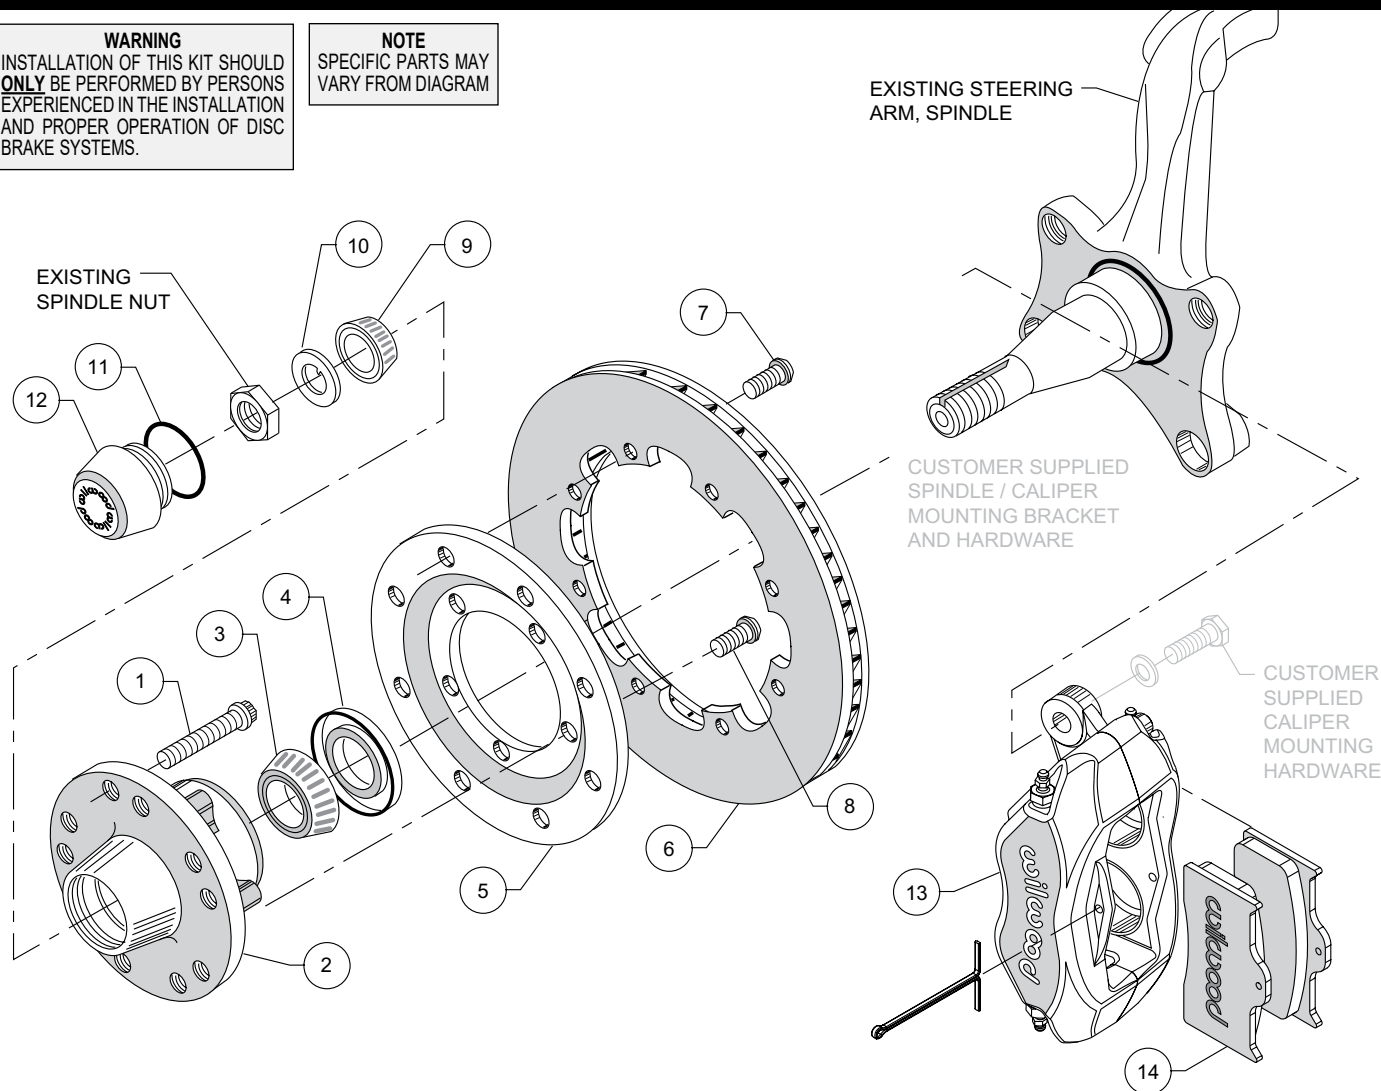

Figure 1. Typical Installation Configuration
NOTE: Numbers in parenthesis refer to the parts list on the preceding page and Figure 1.
- Pack the large inner bearing cone (3) with high temperature disc brake bearing grease (available from your local auto parts store) and install into the backside of the hub (2), Photo 2.
- Install the grease seal (4) by pressing into the backside of the hub (2), flush with the end of the hub, Photo 2.
- Orient the rotor (6) and the rotor adapter (5) as shown in Figure 1 and Photo 3. Attach the rotor to the adapter using bolts (7). Using an alternating sequence, apply red *Loctite*® 271 to the threads, and torque to 25 ft-lb.
- Mount the adapter/rotor assembly (5/6) to the hub (2) using bolts (8), as shown in Figure 1 and Photo 4. Using an alternating sequence, apply red *Loctite*® 271 to the threads, and torque to 45 ft-lb.
- Pack the small outer bearing cone (9) with high temperature disc brake bearing grease and install into hub (2). Slide the hub/rotor assembly onto the spindle. Secure using spindle washer (10) and OEM spindle nut, Photo 5.
- Mount the caliper (13) onto the customer supplied caliper bracket using customer supplied hardware. Temporarily tighten mount bolts. View the rotor (6) through the top of the caliper (13). The rotor should be centered in the caliper, Photo 7. If not, adjust by adding or subtracting customer supplied shims between the bracket and the caliper. Always use the same amount of shims on each of the two mounting bolts. Once the caliper alignment is correct, remove the bolts one at a time, apply red *Loctite*® 271 to bolt threads, and torque to bracket manufacturer's specification.
- Insert the brake pads (14) into the caliper with the friction material facing the rotor (6), as shown in Figure 1 and Photo 8. Secure the pads in place using the cotter pin, Photo 8.